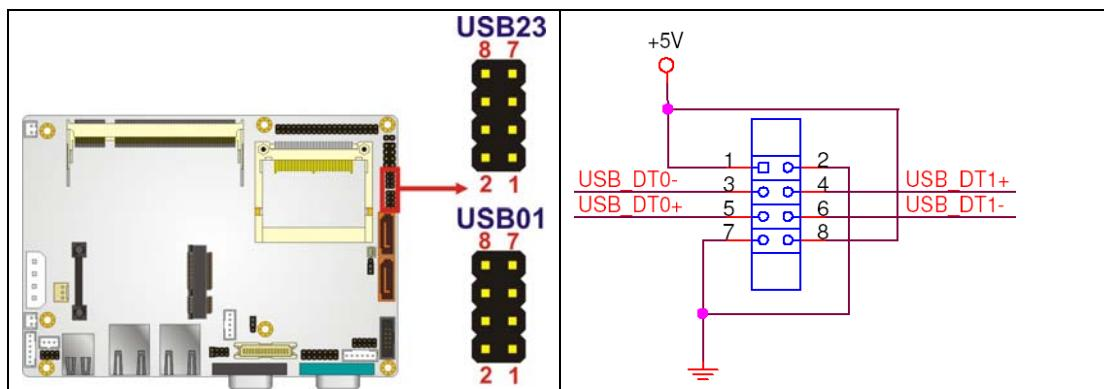

Figure 3-13: USB Connector Pinout Locations
3.3.12 USB Connectors (Internal)**CN Label:** USB01 and USB23**CN Type:** 8-pin header (2x4)**CN Location:** See Figure 3-13**CN Pinouts:** See Table 3-13